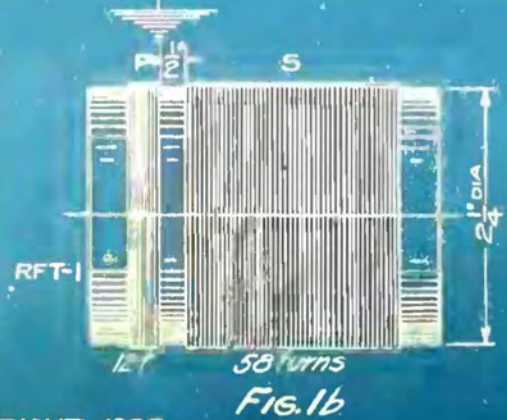

Fig. 1b
At RFT1 we have the usual aperiodic tuning coil with the primary (P) and the secondary (S) which is tuned by the 17 plate (0.00035 mf) variable condenser (C1) connected across the secondary in the conventional manner. A detail of this tuning unit is shown in Fig. 1B, which shows the principal dimensions. There are 58 turns on the secondary and 12 turns on the primary coil (P),